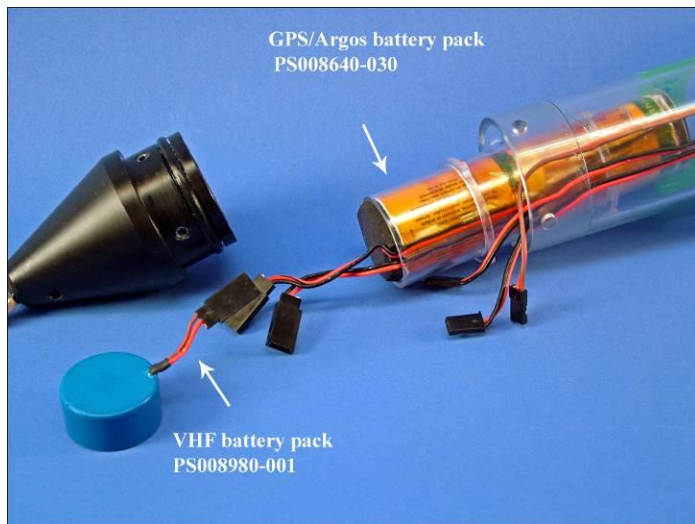

Fig. 4 GPS/ARGOS battery pack installed in battery holder assembly with VHF battery pack ready for installation in nose cone.
1. Obtain a **VHF battery pack PS008980-001** and a **GPS/ARGOS battery pack PS008640-030** in preparation for battery pack replacement. Take the new GPS/ARGOS battery pack and slide it into the battery holder assembly **HD008997-001** (**Fig. 4**) **NOTE:** The connectors for both the GPS/ARGOS and VHF battery packs are keyed differently so that they will only match the corresponding connectors.